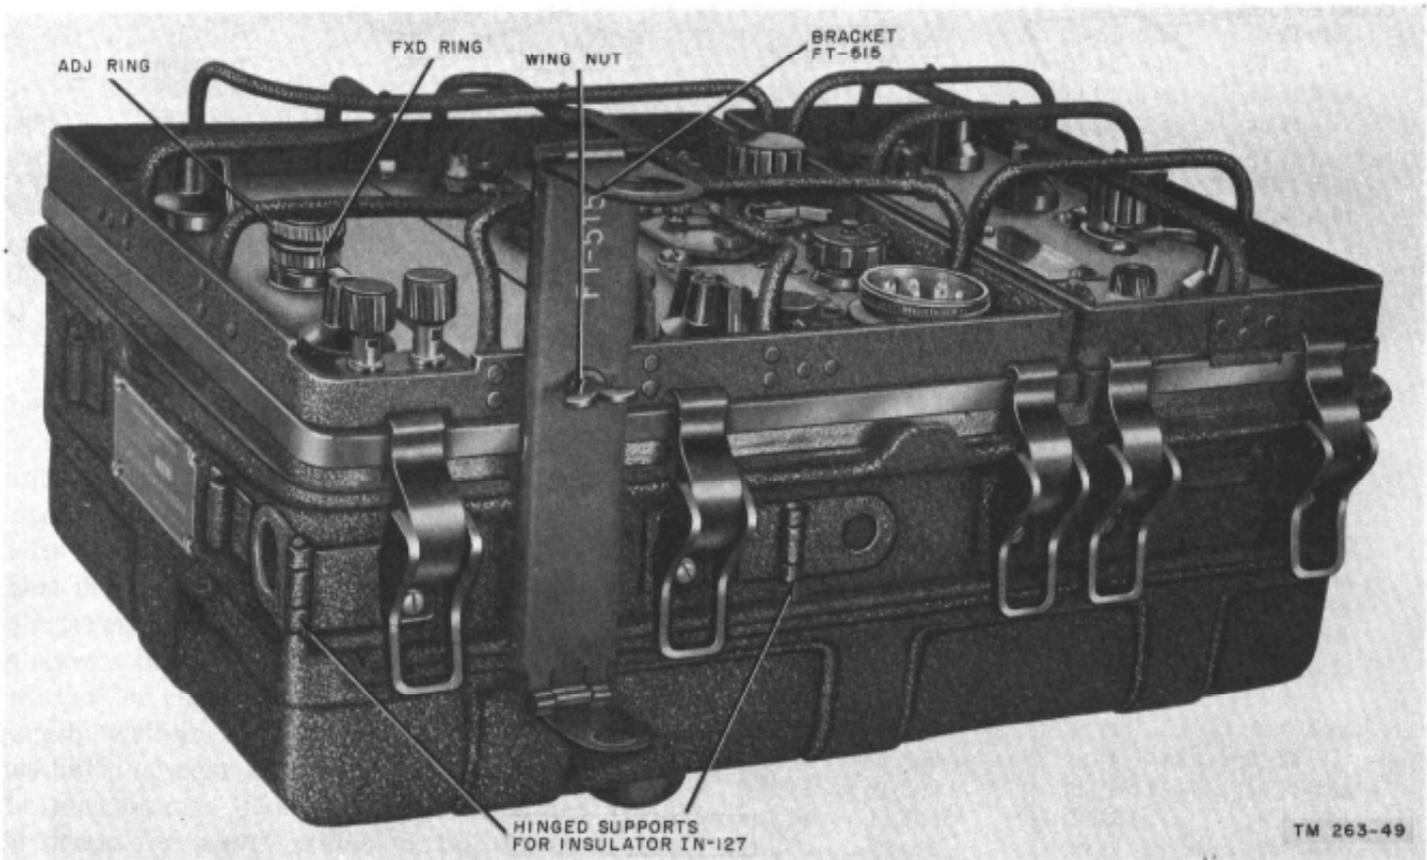

Figure 26. Bracket FT-515, in use.
d. Extend the hinged supports (fig. 26) on the side of the radio set case through the opening in the side of Bag CW-140/GRC-9. Insert Insulator IN-127 in these supports.
h. If it is necessary to operate the radio set in a horizontal position, Insulator IN-127 is mounted by means of Bracket FT-515 (fig. 26).